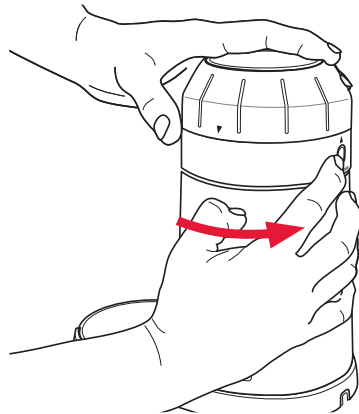

Figure 9
2. To remove the top burr turn the grind adjustment collar in an anti-clockwise direction until it stops, see figure 9.